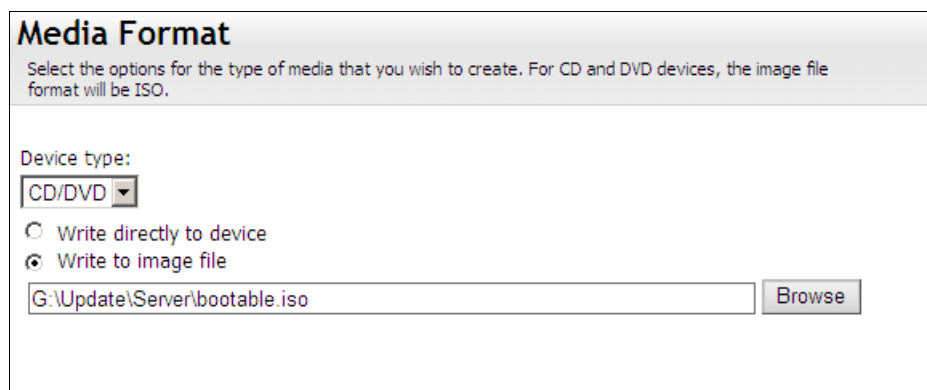

Figure 9-79 Example of a target media
11. By default, BoMC creates an ISO file, as shown in Figure 9-79. You can choose another medium. Click **Next**.